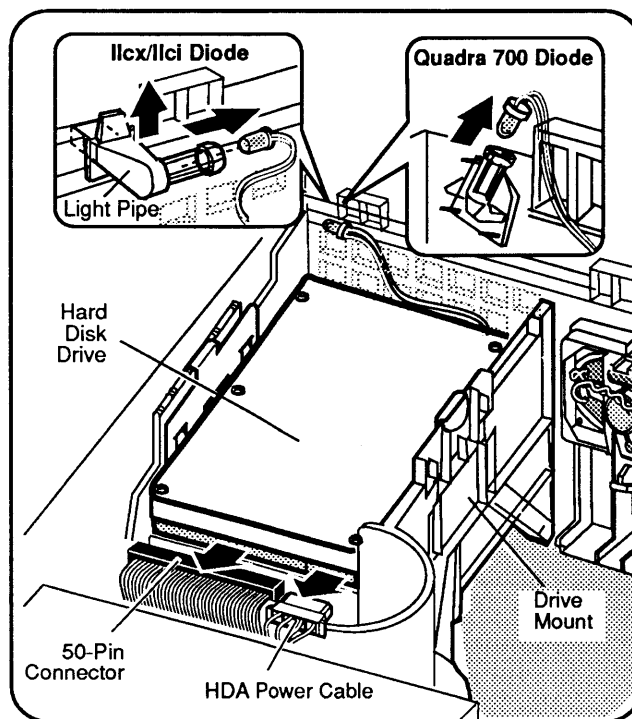

Figure 2-8 Hard Disk Drive/Diode/Mount
The hard disk drive is on the top of the disk drive mount (see **Figure 2-8**). You can remove the hard disk drive with or without removing the drive mount. The following procedure describes how to remove the hard disk drive without removing the mount unit. (The procedure for removing the mount unit is explained later in these take-apart procedures.)
2. Gently remove the 50-pin connector from the back of the hard disk drive (**Figure 2-8**).
3. Disconnect the HDA power cable (**Figure 2-8**).
4. Remove the diode drive light on the front of the case by lifting the plastic holder and pulling the diode from the holder (see inset on **Figure 2-8**).